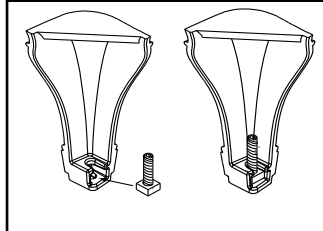
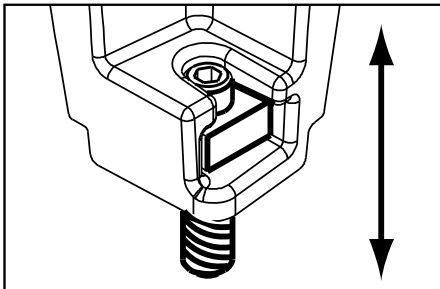

Figure 18.2
Figure 18.3 - Bolt fully extended
2. Slide assembled nuts and bolts into slots on legs with the nuts on the bottom. **Figure 18.2.** Use a 5/32 in. (3.96mm) Allen wrench to adjust legs up and down to desired level. **Figure 18.3**